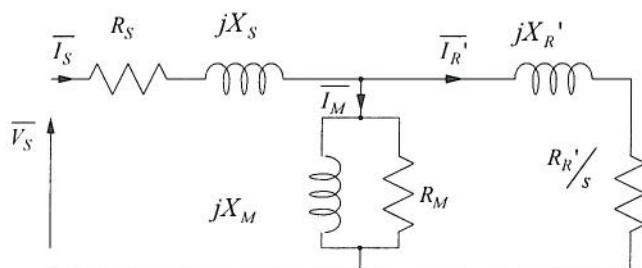

Figure Q3
3. A 1-pole-pair induction machine is used on a three-phase supply of 50 Hz. It has the equivalent circuit shown in figure Q3 with the parameter values noted below.